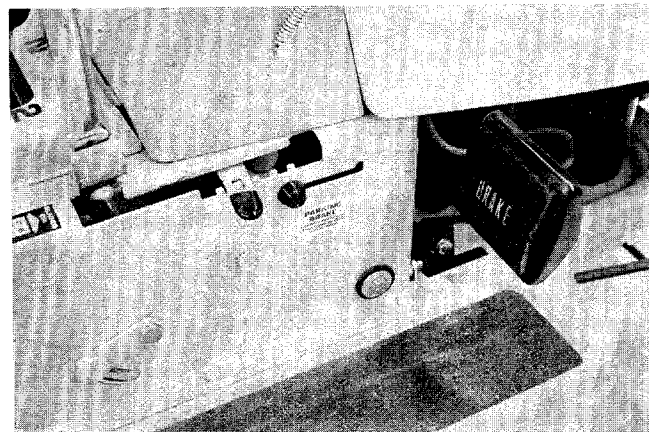

FIGURE 15.
- h. Brake.** The brake pedal is located on the right hand side of the mower and is operated by depressing it with your right foot. See figure 15.